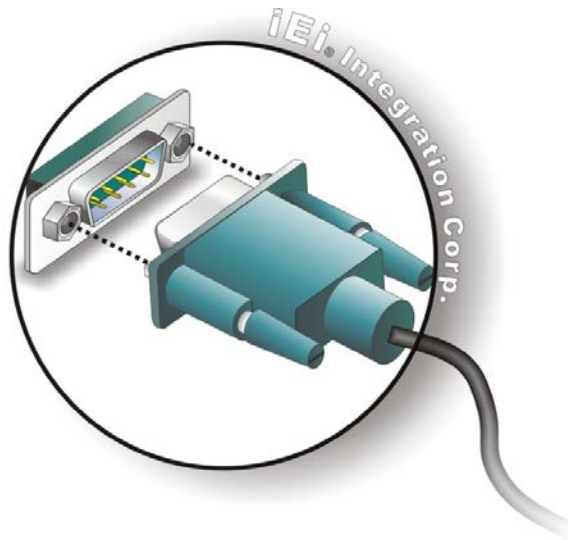

Figure 3-20: Serial Device Connector
- Step 2:** **Insert the serial connector.** Insert the DB-9 connector of a serial device into the DB-9 connector on the external peripheral interface. See **Figure 3-20**.